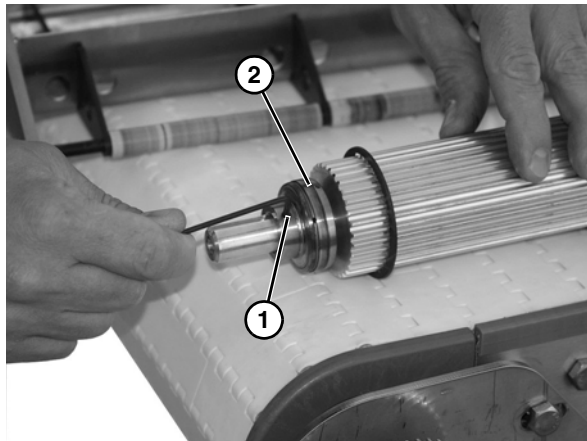

Figure 39
6. Loosen set screws (Figure 39, item 1) from bearing (Figure 39, item 2).